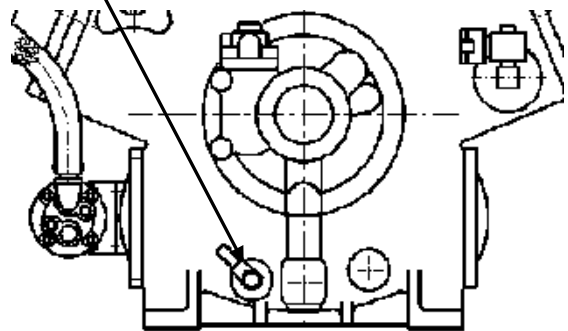

Fig. 4-2 Oil Supply and Discharge Valve
- Attach the charge hose to the oil supply and discharge valve shown in Figure 4-2, and put the end of the hose into the can of new oil. Then, slightly open the valve to purge the air inside the hose using the gas pressure in the compressor.